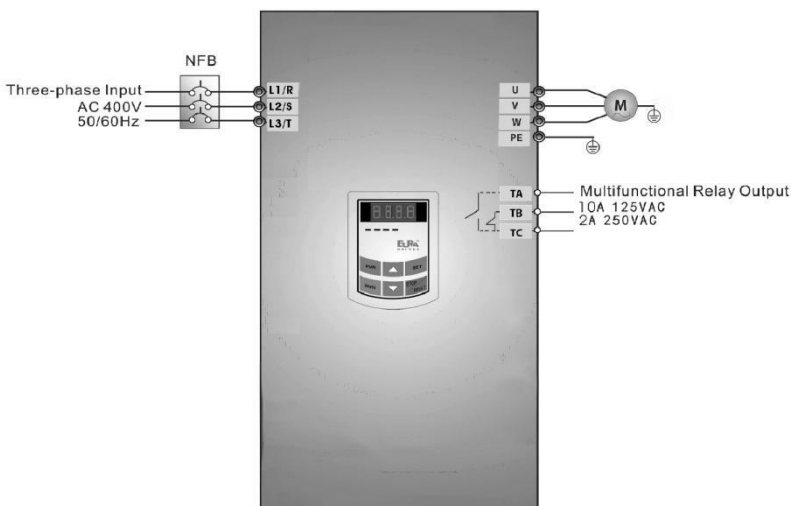

Fig5-7 Wiring Diagram 1
(1) Connect the wires in accordance with Figure 5-7. After having checked the wiring successfully, switch on the circuit breaker, and power on the inverter.
- (2) Press the “Fun” key, to enter the programming menu.
(3) Measure the parameters of the motor
- (1) Connect the wires in accordance with Figure 5-7. After having checked the wiring successfully, switch on the circuit breaker, and power on the inverter;
- (3) Study the parameters of the motor: the operation process is the same as that of 5.3.1.
(4) Set functional parameters of the inverter:
(2) Press the “Fun” key, to enter the programming menu.
(3) Study the parameters of the motor: the operation process is the same as that of 5.3.1.